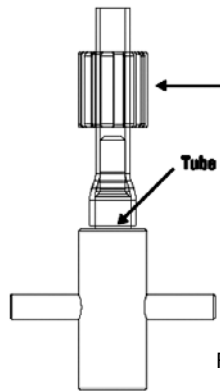

Figure 2
- Remove the PFA tubing from the heat source. Immediately push the flaring mandrel (see Figure 2) into the tubing until the end of the tubing reaches the tube stop.